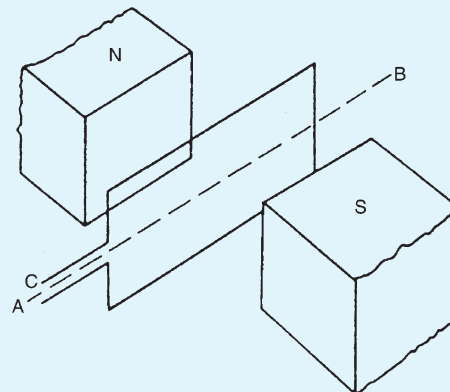

Figure 8.21
5. Fig. 8.21 shows a rectangular coil of wire placed in a magnetic field and free to rotate about axis *AB*. If the current flows into the coil at *C*, the coil will: